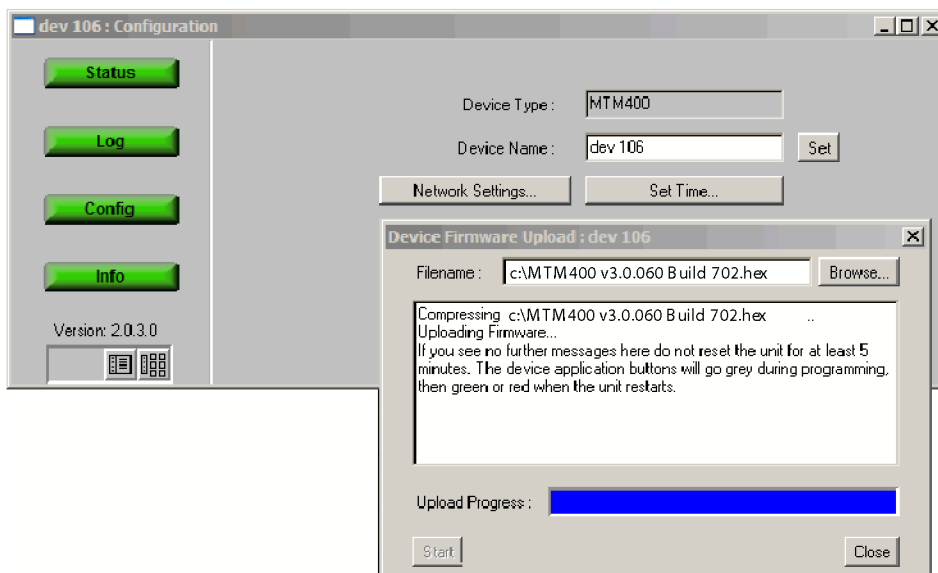

Figure 13: Completing the firmware upload (RUI v2.6.1 and below)
7. When all four of the buttons in the Device view have been active (colored red, green, or yellow) for longer than 20 seconds, and the progress bar in the Device Firmware Upload dialog is full, the firmware is successfully loaded. (See Figure 13.)